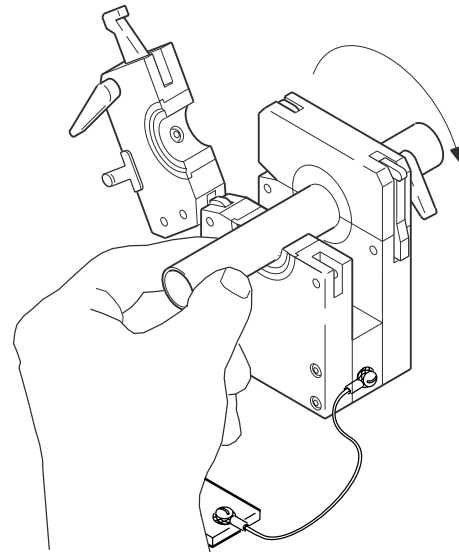

Figure 18 *Placing the Tubing*
2. Close and lock the side plate that is not adjustable. See Figure 18.